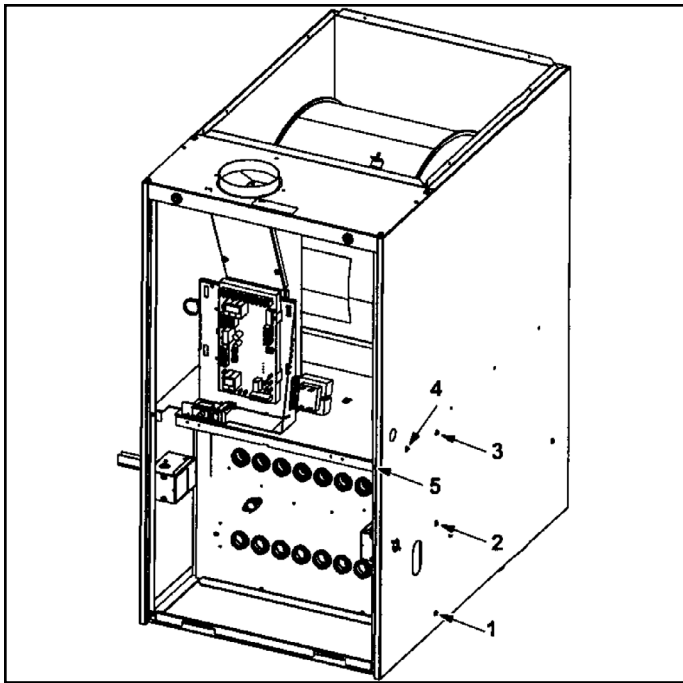

Figure 38. Remove Five Screws if Necessary (either side of cabinet)
9. Remove heat exchanger. It may be necessary to spread cabinet side to allow more room. If so, remove five screws from the left side or right side of cabinet. See Figure 38.